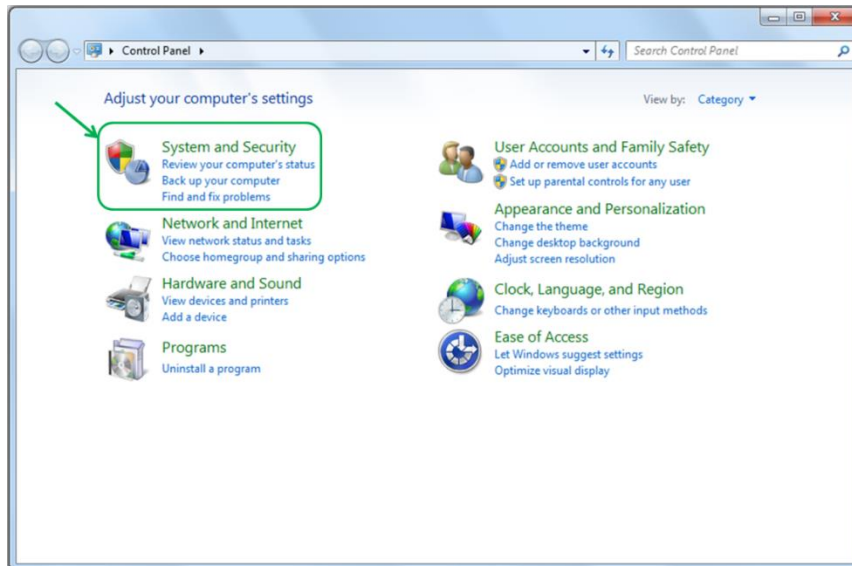

Fig. 18 Control panel.
- Press Start and Select **Control Panels** (Fig. 18)